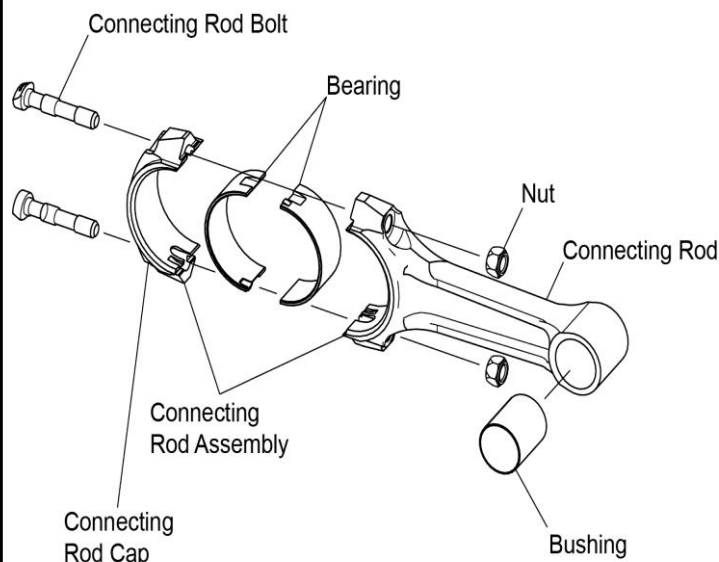

Figure 1
REASON FOR REVISION: Clarified connecting rod bolt selection and installation instructions, added new Figure 1, revised part numbers in Table 1, and added information from obsolete Service Instructions
1. Any time connecting rod bolts and nuts are removed, discard both of the connecting rod bolts and nuts (Figure 1) and replace them with “Service Use Only” connecting rod bolts and nuts for the corresponding connecting rod assembly in Table 1 or Table 2.
NOTICE: Any time connecting rod bolts and nuts are removed, discard both of the connecting rod bolts and nuts (Figure 1) and replace them with "Service Use Only" connecting rod bolts and nuts for the corresponding connecting rod assembly
NOTICE: Any time connecting rod bolts and nuts are removed, discard both of the connecting rod bolts and nuts (Figure 1) and replace them with “Service Use Only” connecting rod bolts and nuts for the corresponding connecting rod assembly.